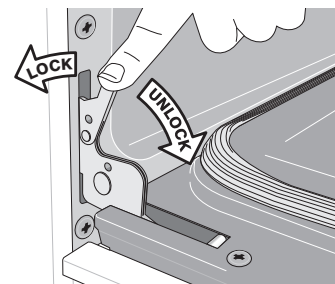

Figure 12: Door hinge locks
2. Pull the door hinge locks on both left and right door hinges down from the oven frame completely toward the oven door (Figure 12). A tool such as a small flat-blade screwdriver may be required.
4. Push the door hinge locks up toward and into the oven frame on both left and right oven door hinges to the locked position (Figure 12).